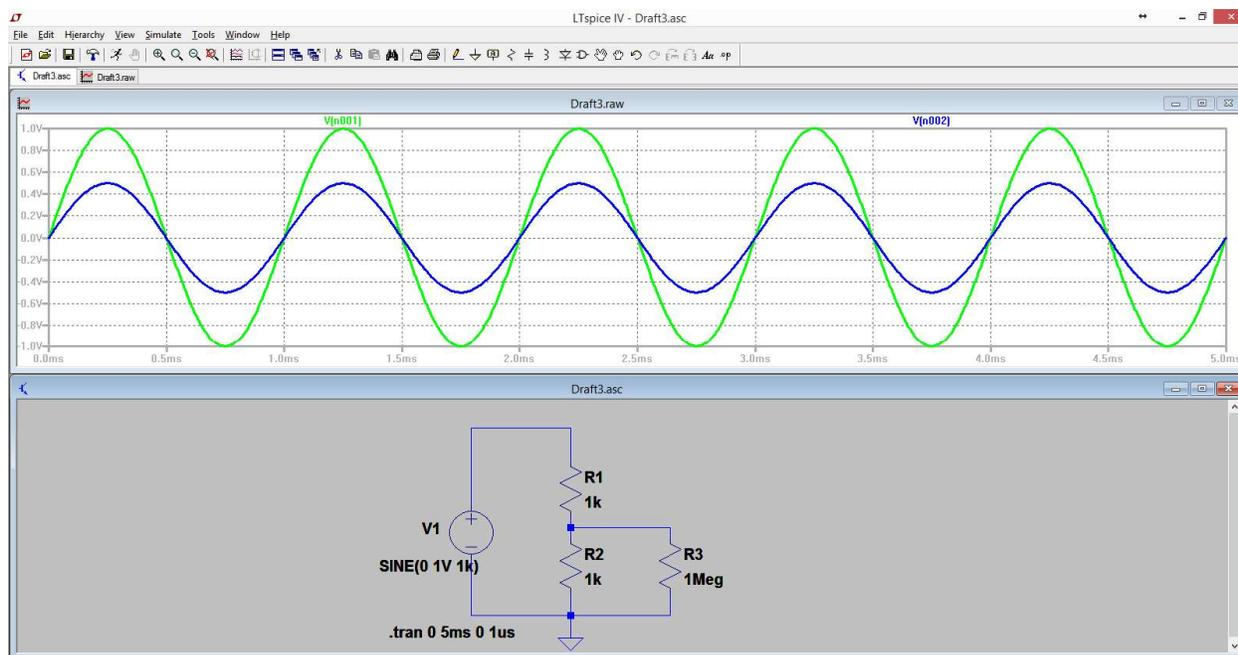

Figure A-7. Source Voltage and VR2 Voltage
- Click on the *Run* button. A set of axes with no signals shown will appear. You can now add voltages wherever you wish by left-clicking with your mouse. You will see that whenever you hover over a wire with your mouse, a symbol like a voltage probe will appear. Click where you want to know the voltage. If you want to plot current, hover over a device symbol and your mouse symbol will change to a current probe. If you click on a device, the current through it will appear on the plot. In the plot shown in **Figure A-7**, the input and output voltages for an example voltage divider are displayed.
- You should get something like (but not identical to) results in Figure A-7. The voltage divider expression we used in the previous classes can be applied to sinusoidal signals as well. For sinusoidal signals, the amplitude of the sine wave changes based on the voltage divider ratio. We can then perform the same comparison between source voltage amplitude and resistor voltage amplitude as we did in experiment 7 where we compared the source DC voltage and the resistor DC voltage. For your voltage divider circuit, do we see the same ratio of voltage amplitudes as seen for DC voltages in experiment 7?